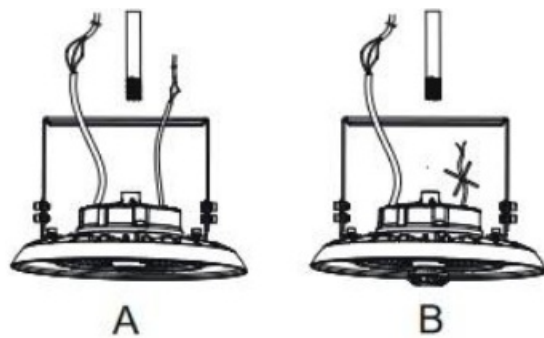

Figure 8
2. Insert 1/2" NPT stem into the bracket (purchased separately) hole (Figure 8).